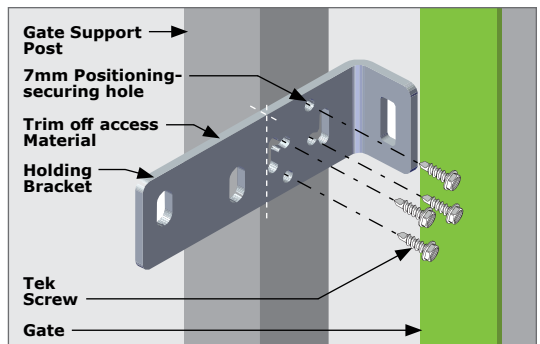

FIGURE 10. SUPPORT POST - FASTENERS
2. Using four M6 high-quality Tek screws to mount the **Holding Bracket** onto the Support Post. Four 7mm Position-securing Holes have been provided. See Figure 10.